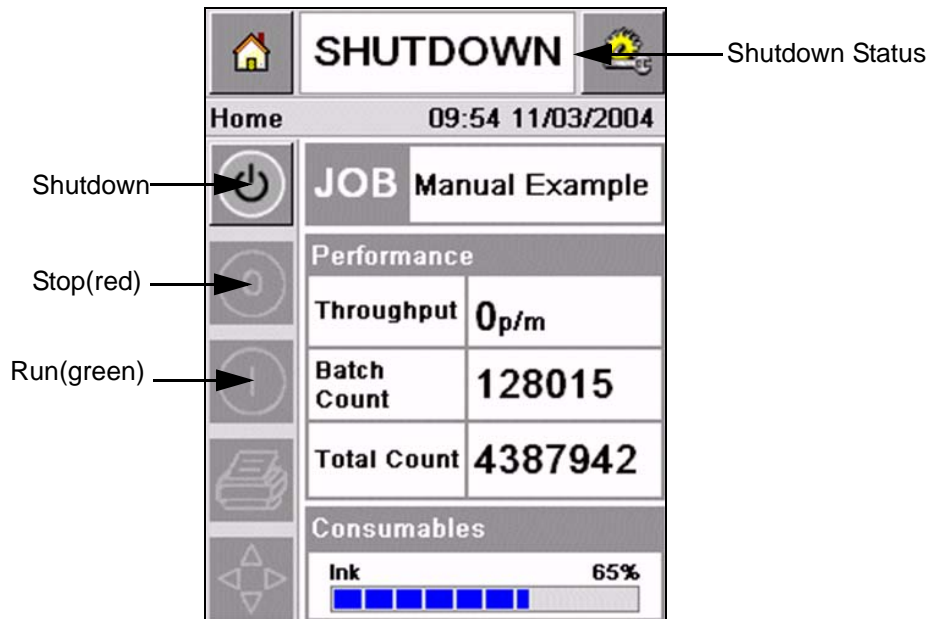

Figure 4-3: Home Page
- 3 When the self-diagnostic checks are complete, the CLARiTY[®] *Home Page* appears (refer to Figure 4-3 on page 4-3).
- 5 During the *SHUTDOWN* status, the *Stop* (red) and *Run* (green) buttons (Figure 4-3) are disabled (in grey color).